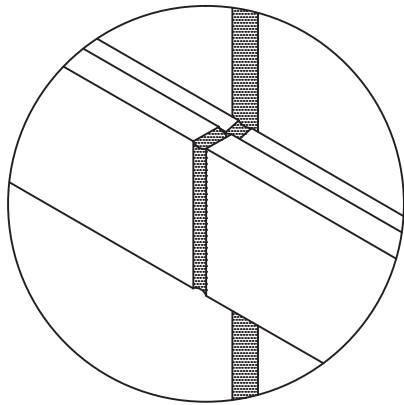

Figure 26
- 3.25 Horizontal face caps should be installed centered in opening. The face caps on SSG system should be spliced every three bays and have a minimum 1/8" joint between each cap. This joint should be sealed by installing backer rod and sealant between caps. (**SEE FIGURE 26**)